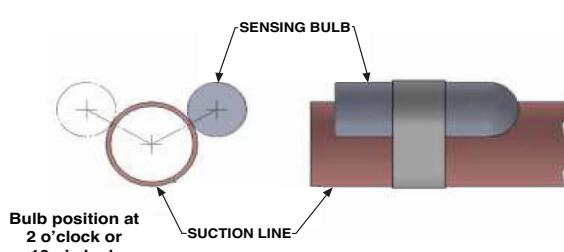

Figure 14
- d. The recommend installation position for the TXV bulb is parallel to the ground (on a horizontal plane). The bulb position should be at 2 o'clock or 10 o'clock. See Figure 14.